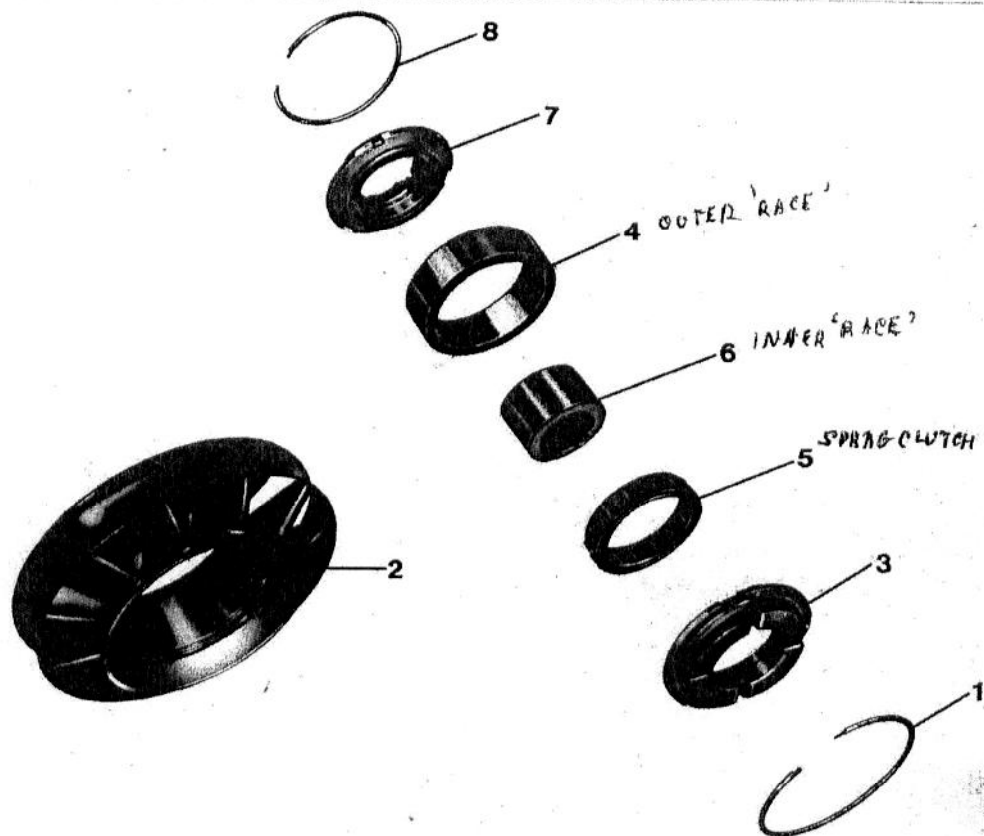

FIG. 6
2. (Fig. 6) Remove the snap ring (1) from the stator body (2) and lift out the thrust washer (3).
3. Slide out the clutch mechanism, i.e. the clutch ring (4), the outer race (5) and the inner race (6).
4. Remove the second thrust washer (7) and snap ring (8).